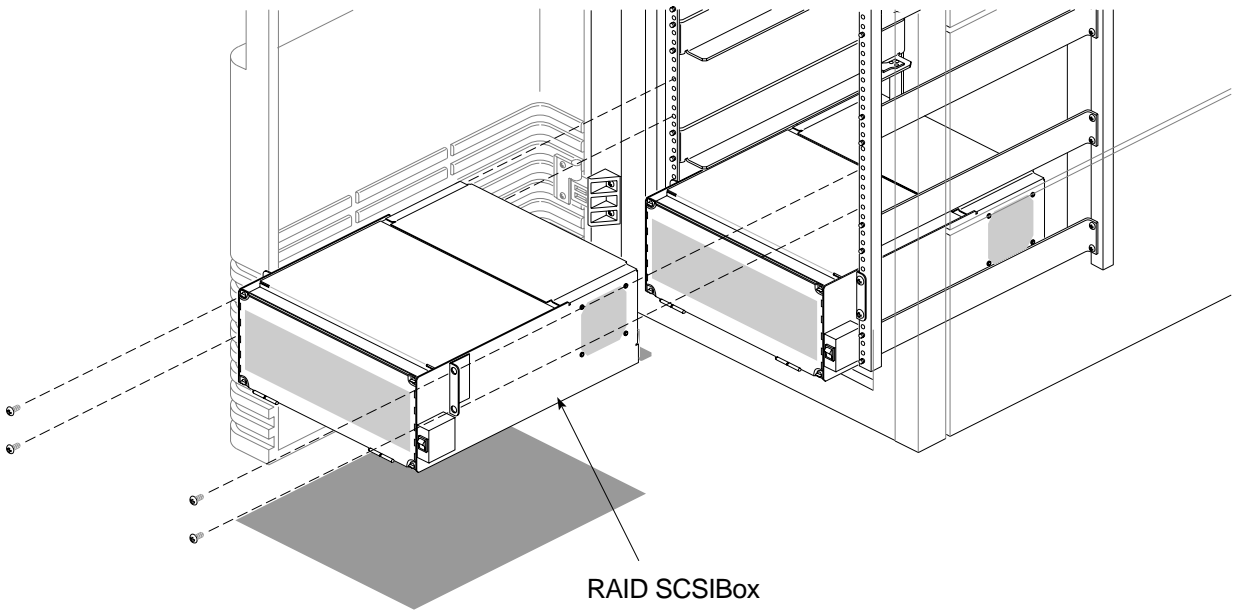

Figure A-1 Removing a RAID Box from the Vault
4. Carefully pull the box out of the chassis and lift it free. See Figure A-1.